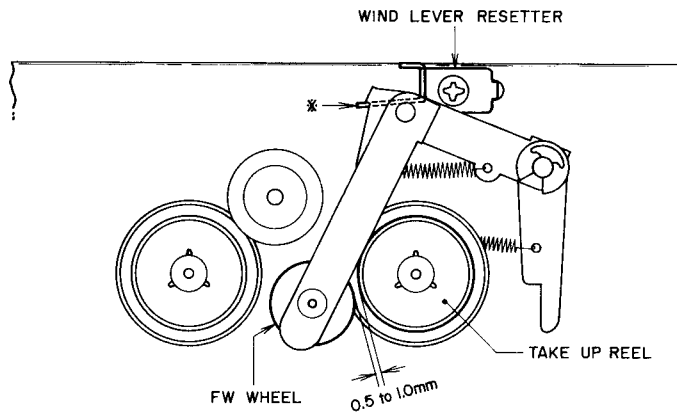

Fig. 7
3. FW WHEEL INSTALLATION POSITION ADJUSTMENT (Refer to Fig. 7)
Adjust by bending the part of wind lever resetter marked * in Fig. 7 so that at stop mode, the gap between FW Wheel and Take-up Reel is 0.5 to 1.0 mm.